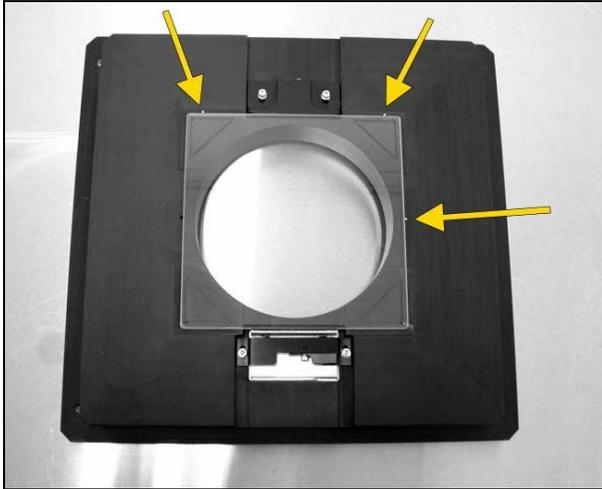
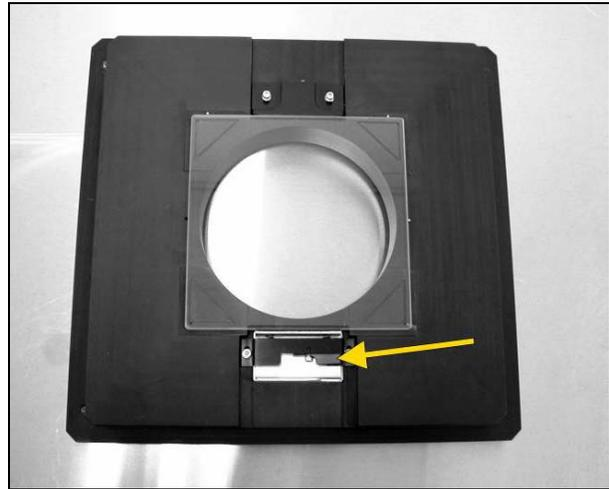

Figure 9-7 Arrows indicate notches
Figure 9-8 Black secure button
STEP 4- Install the mask in the holder. Once the holder is out flip it upside down and set it on the table to the left of the mask aligner. There is a silver clip keeping the mask pressed against two notches. Pull the clip down to release the mask (it sticks so pull down hard). Pick the mask up by its edges and store in appropriate container. Next place the mask that will be used onto the holder. Push the top of the mask up against the two notches on the top of the holder. There is also one on the side of the holder (Figure 9-7). It is a good idea to double check that the correct side is facing up, so that when flipped back over the correct side will be in contact with the substrate. Once the mask lined up on the mask holder, press the small black button that is on the right of the clip (Figure 9-8). This will push the clip upwards and secure the